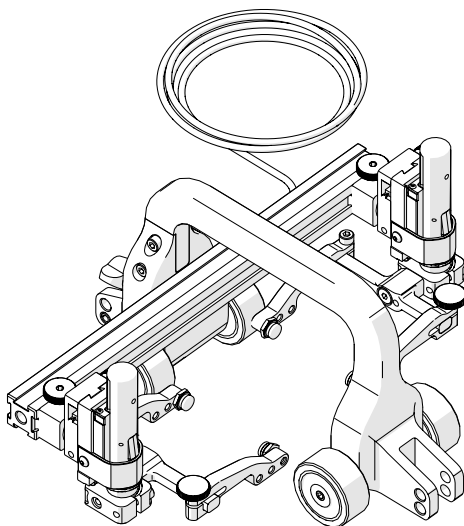

Fig. 70 - Mount probe holders
3. Assemble the appropriate configuration to the frame bar (Fig. 70). Install the wedge and probes that will be used (see *Vertical Probe Holder* on page 15).